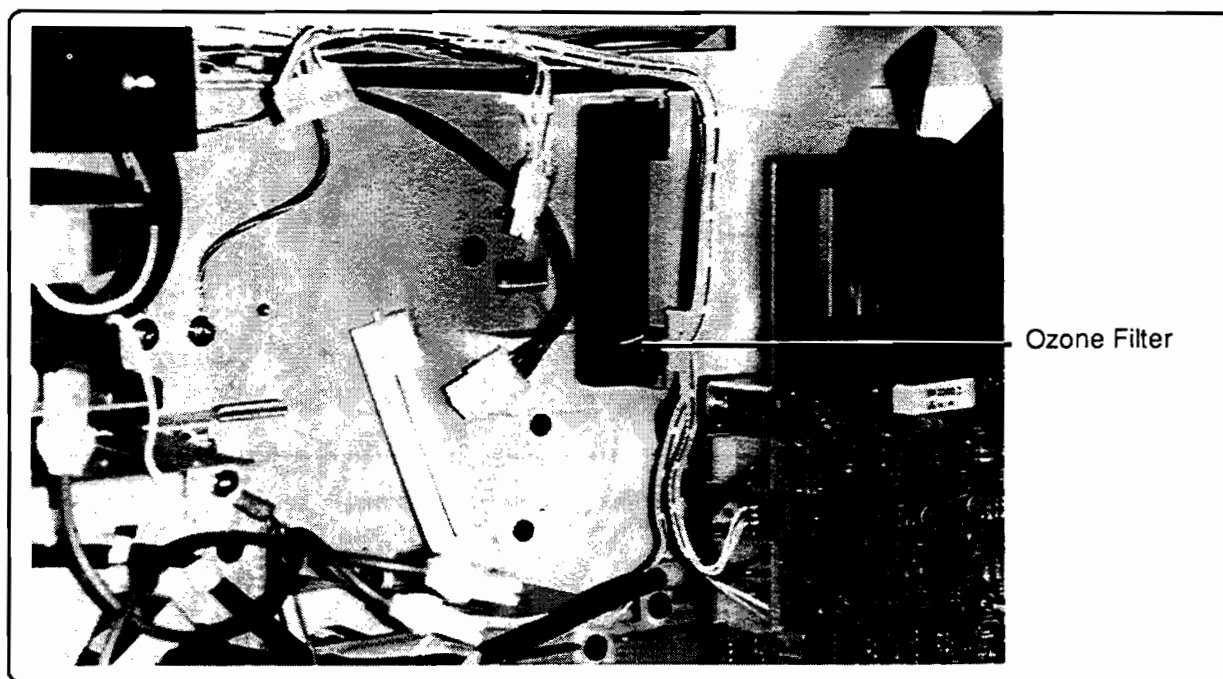

Figure 4-5. Ozone Filter Replacement
1. At 400-K intervals, replace Ozone Filter, P/N FA2554I-000CN (Figure 4-5):
- b. Remove the old Ozone Filter (Figure 4-5), and replace with a new one.